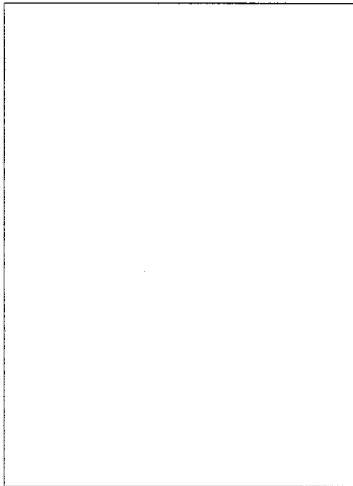

Fig. 1: SO 40 controls.
**2.5 Controls** (Refer to fig. 1)
### 4.3 Setting Levels (Refer to fig. 1)